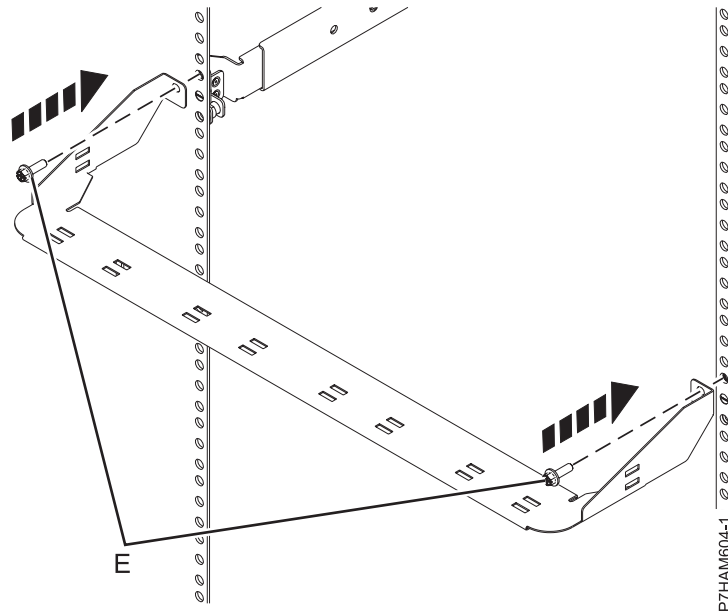

Figure 11. Mounting the cable management bracket
- h. At the rear of the rack, hold the cable management bracket up to the rear rack flanges, aligning the mounting holes on the bracket to the top holes of the EIA that contains the enclosure, as shown in Figure 11 on page 11. Apply the M5 screws **(E)** through the mounting holes of the bracket and into the top EIA holes on the rack flanges.